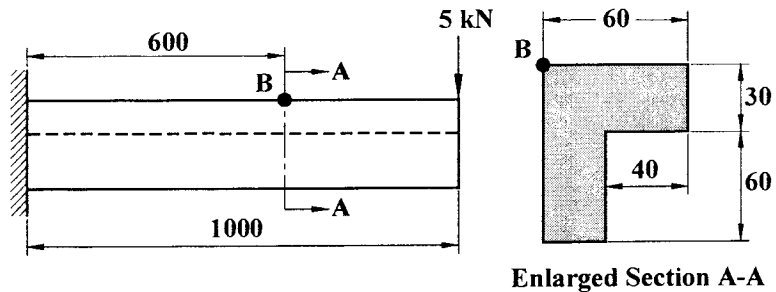

Fig. 1
3. A straight prismatic beam is loaded as shown in Fig. 1. The line of action of the load passes through the centroid of the beam cross section. Find the neutral axis in the section A-A and compute the normal stress at the point B located as shown in Fig. 1. All dimensions in Fig. 1 are in mm. (3+3)